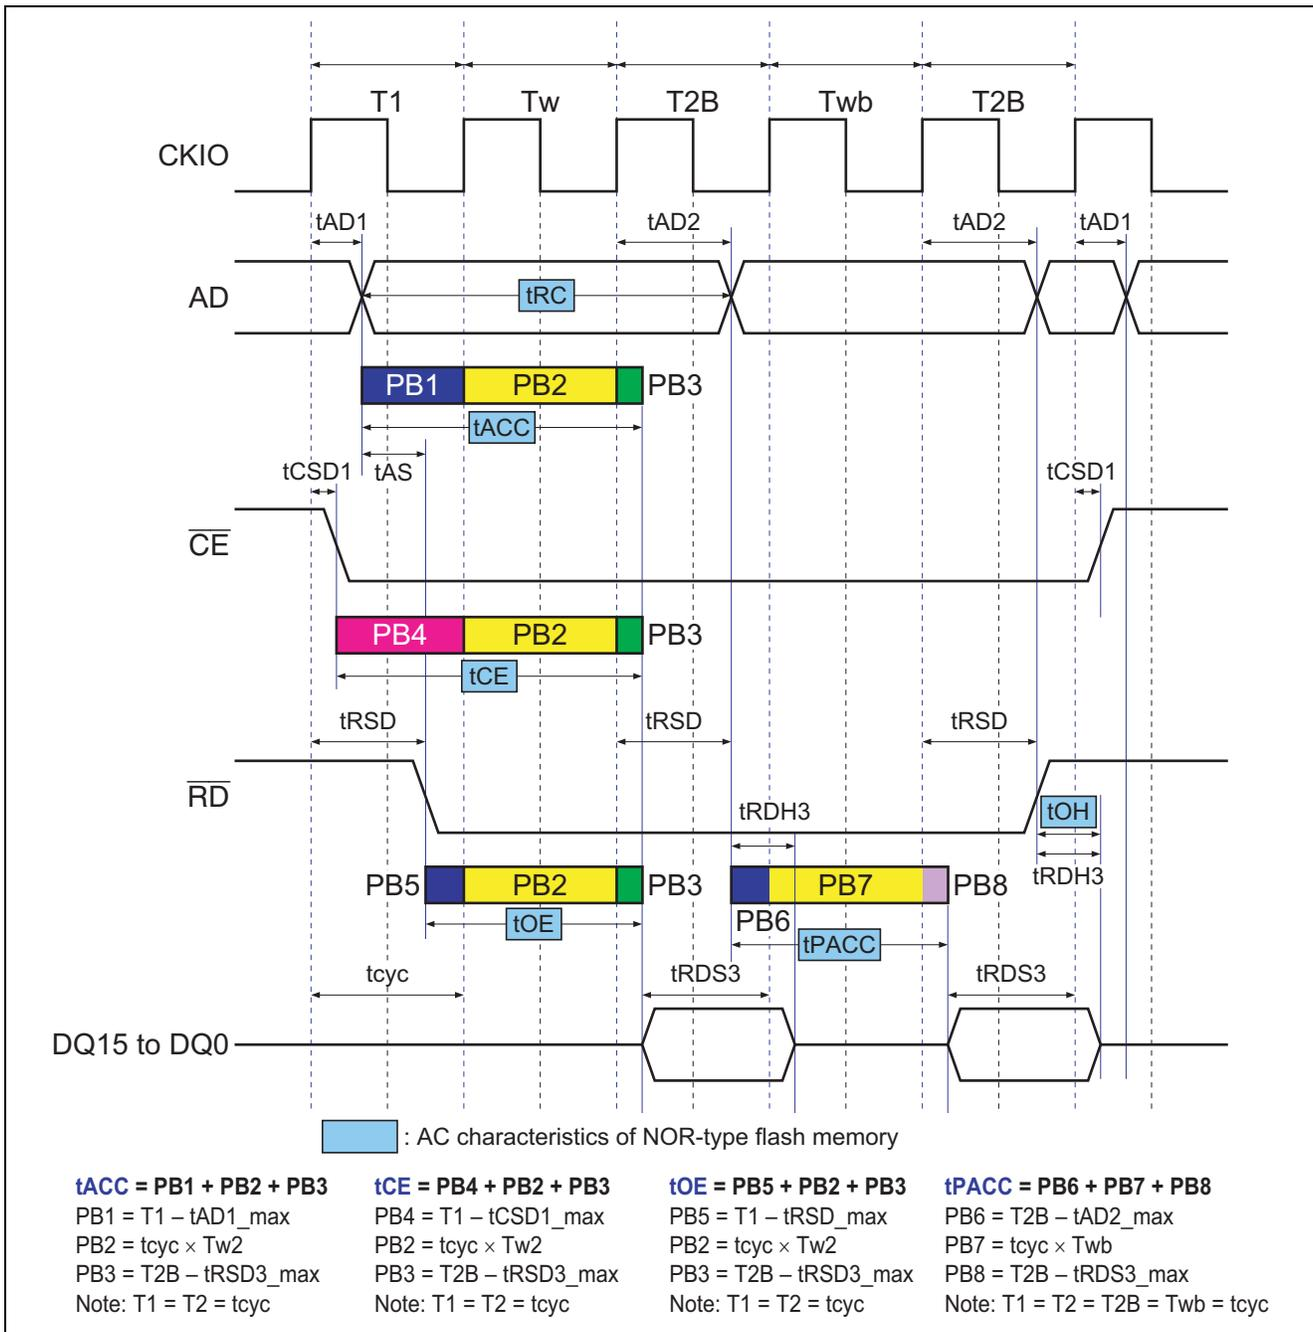

Figure 12 Page Read Timing for NOR Flash Memory When W = 1, BW = 1, and BST = 2 (1)
- t_{RC} of NOR flash memory (read cycle time)..... (figure 12)
- t_{ACC} of NOR flash memory (access-access time)..... (figure 12)
- t_{CE} of NOR flash memory (\overline{CE} access time)..... (figure 12)
- t_{OE} of NOR flash memory (\overline{OE} access time)..... (figure 12)
- t_{PACC} of NOR flash memory (page access time/the second and subsequent access cycles)..... (figure 12)
- t_{OH} of NOR flash memory (retention time for previous cycle data output)..... (figure 12)
Figure 12 shows page read timing for NOR flash memory (1).